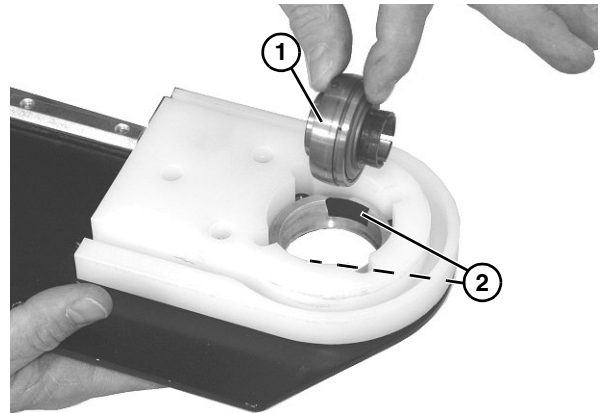

Figure 52
1. Turn bearing (**Figure 52, item 1**) to align with slots (**Figure 52, item 2**) in bearing housing. Then remove bearing.